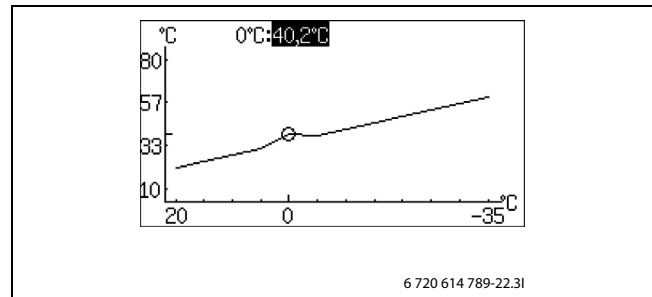

Fig. 23
- ▶ Turn the menu dial when the square is marked until 0 0 °C is marked (→ Fig. 23).